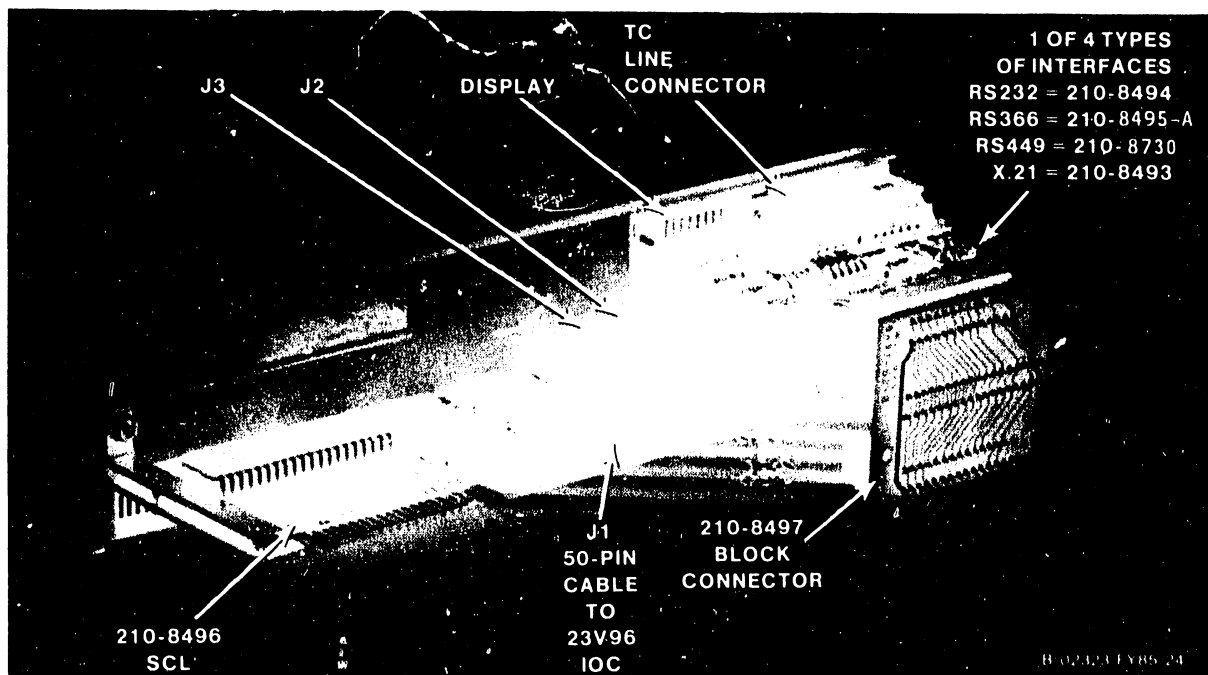
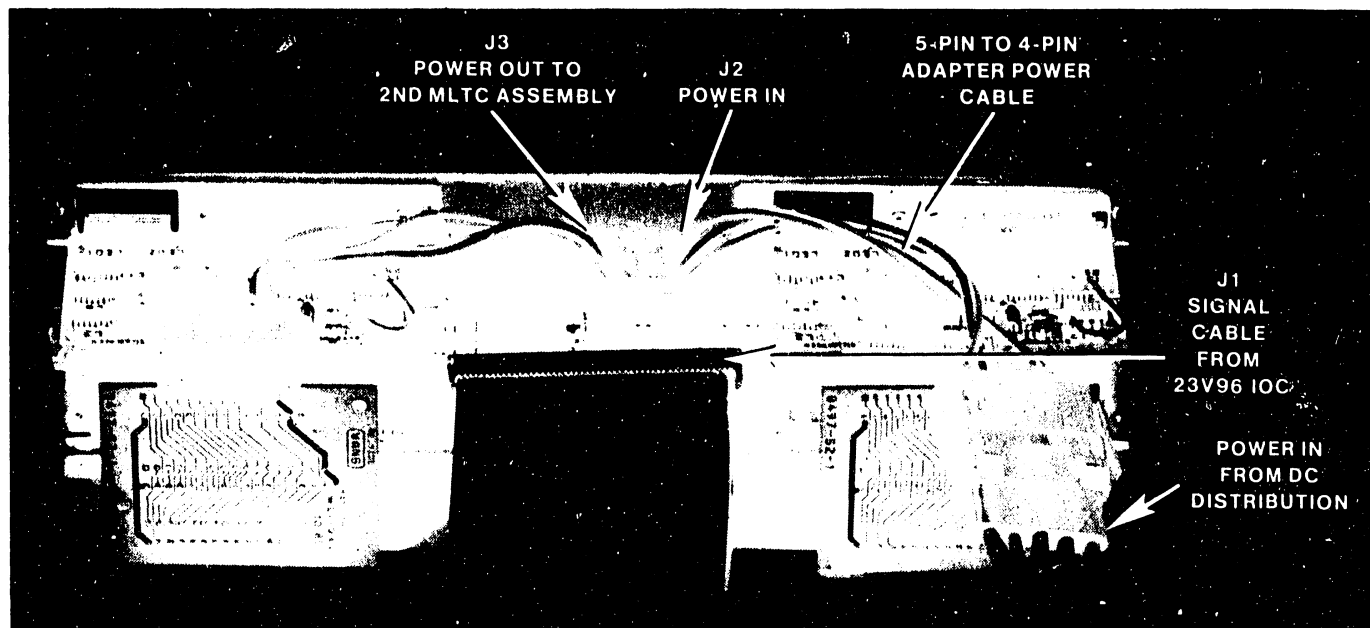

Figure 5-34. 270-1003 Multiline TC Back Panel Assembly
Figure 5-35. 270-1003 Multiline TC Back Panel Assembly with Cabling
2. Figure 5-34 shows the Multiline TC back panel assembly, and figure 5-35 shows one assembly with cabling. Power cabling is daisy-chained to a second MLTC back panel assembly.
- a. From the DC PDU (210-8716 - J1/J10) to the 5-pin to 4-pin MLTC adapter cable (220-2372) using the 5-pin dc power cable 220-2343. (Figure 5-35.)